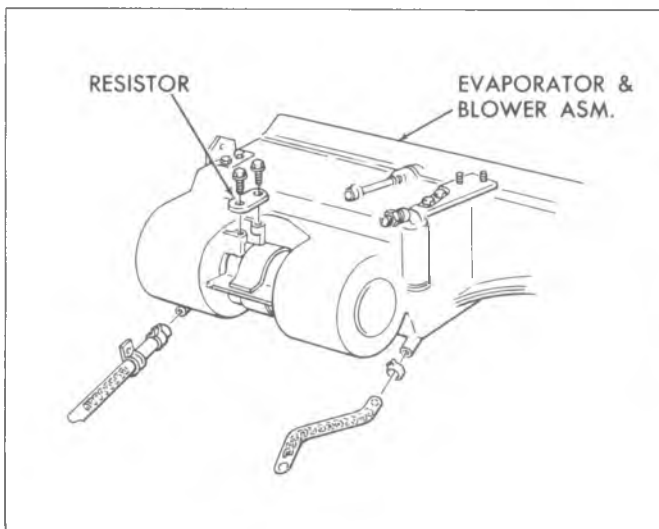

Fig. 54—Blower Motor Resistor
4. Remove the two resistor mounting screws and remove the resistor as shown in Figure 54.